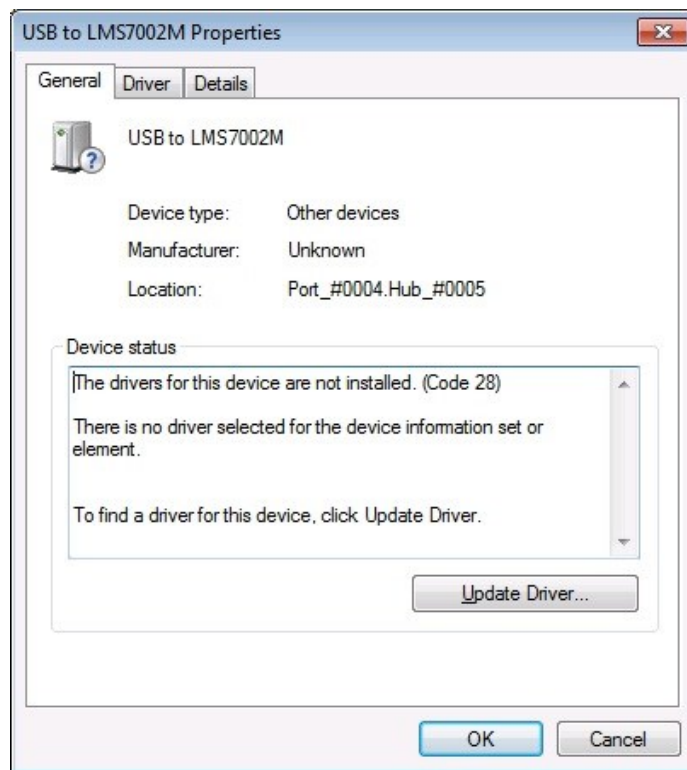

Figure 42 Device properties
4. When a new window pops-up press **Update Driver**, see *Figure 42*.